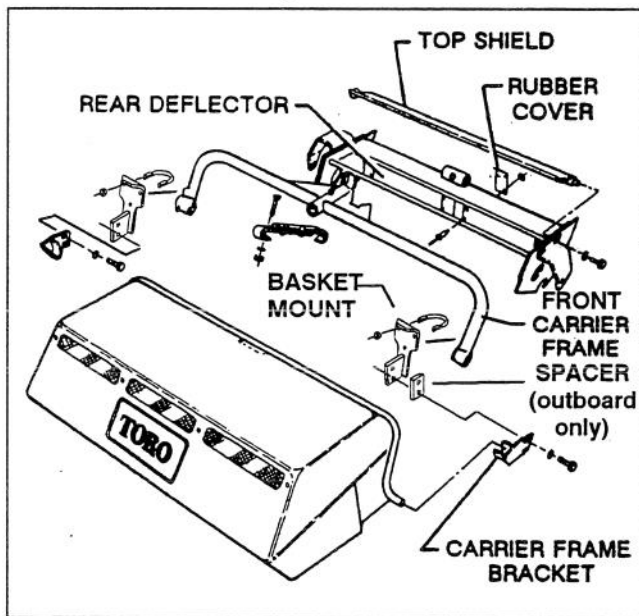

Figure 6
3. Mount the **shorter**, carrier frame brackets to the basket mounts with 3/8-16 x 1-1/2" lg. capscrews and flatwashers, locating brackets as shown in figure 6. Install a spacer between carrier frame bracket and basket mount when mounting outboard ends of front carrier frames. Capscrew heads to be positioned toward center of cutting units.